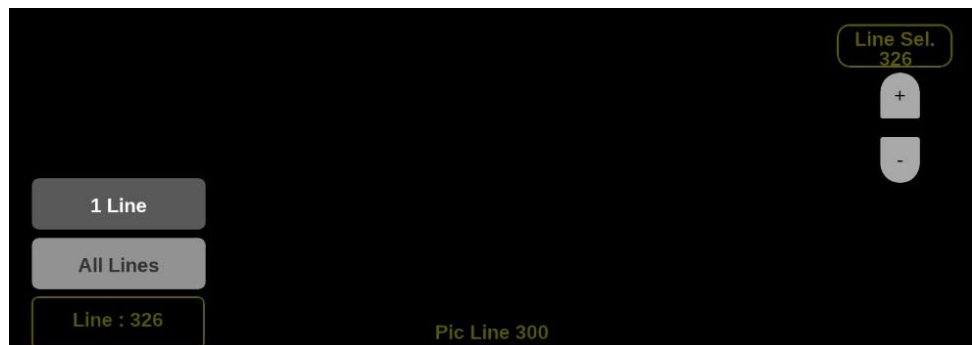

Figure 107: Vector on-screen tools – Line Select
If **1 Line** is selected then the display will only show results for the selected line in the picture. The line can be selected using the on-screen tools. (See Line Select function.) Or the line can be selected directly on the Picture. (See Figure 107.)
1. Select the **Lines** button at the bottom of the application. (See Figure 107.)